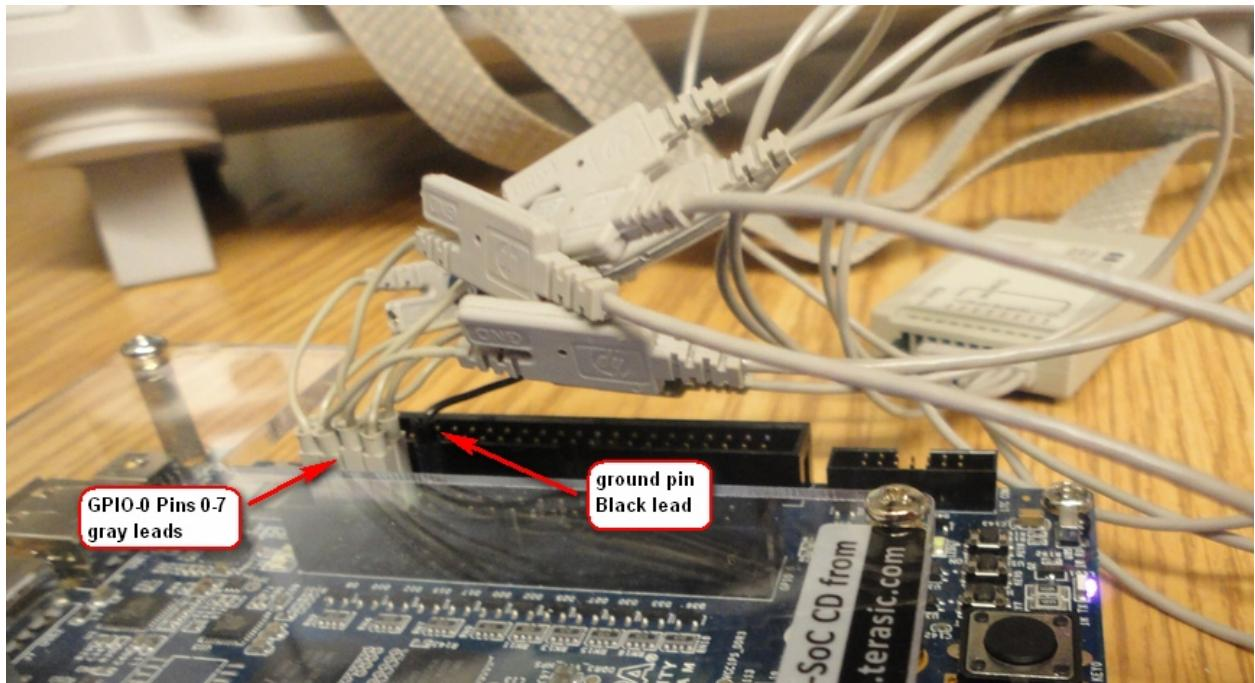

Figure 99 - Connecting the MSO-X-3024A leads from the scope to the DE1-SoC 40 pin header (GPIO-0)
- Connect the leads to the GPIO-0 header on the DE1-SoC board. See **Figure 99**.